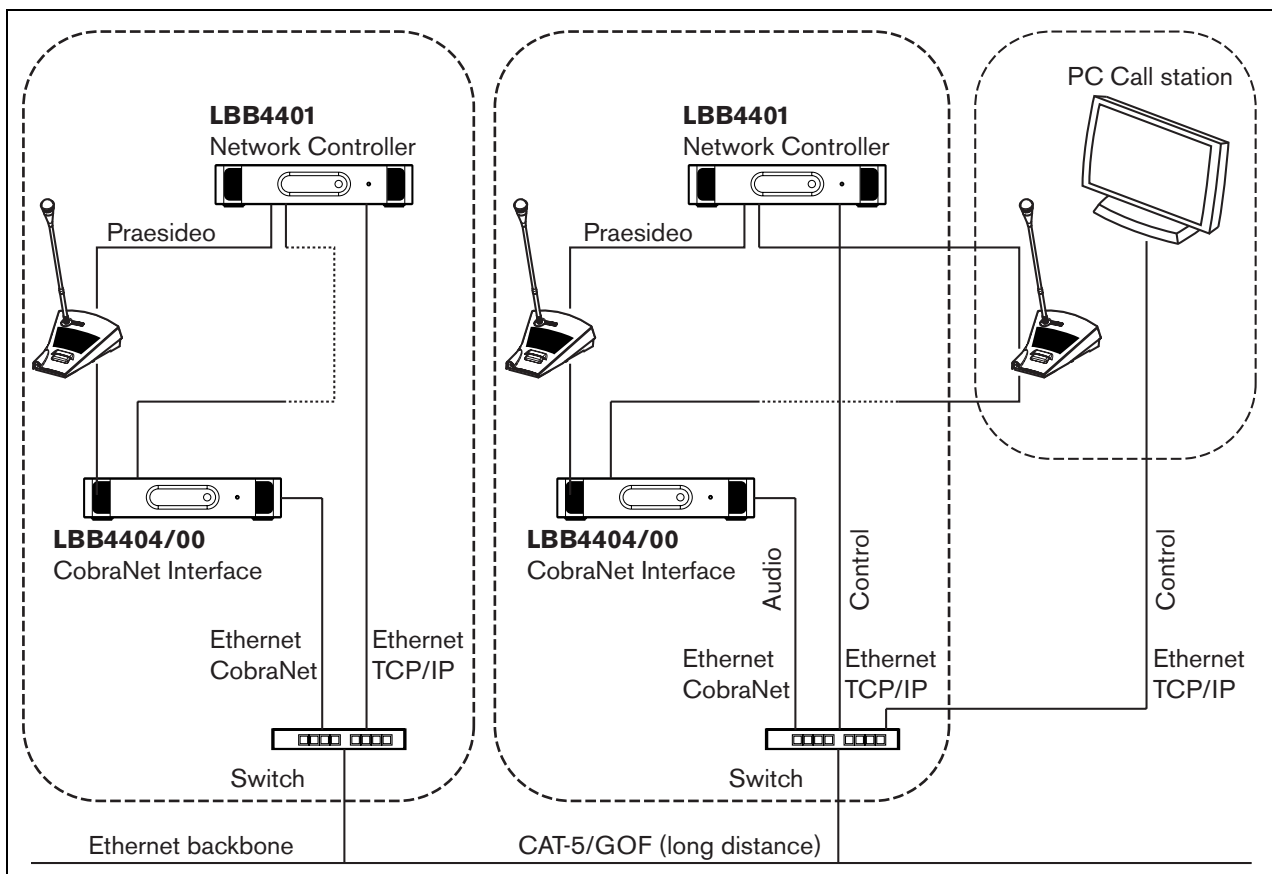

figure 25.4: Connecting systems
- Connect Praesideo systems (see figure 25.4 for an example).